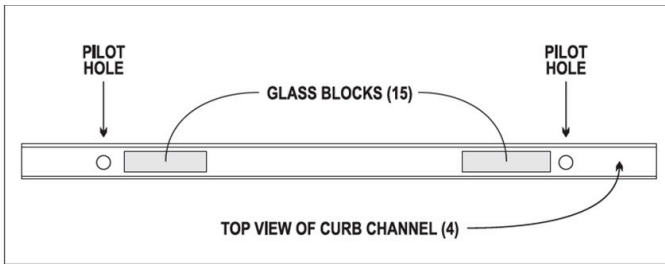
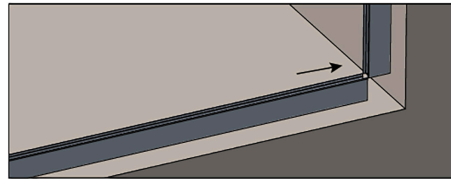
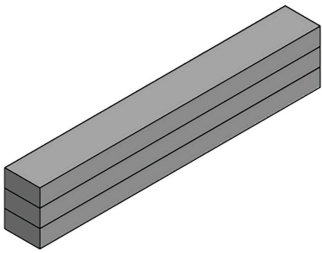
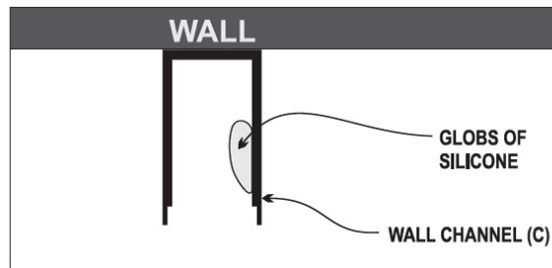

FIGURE 20A
FIGURE 20B
FIGURE 21A
FIGURE 21B
With door in the open position, carefully remove the Glass Panel (P) and Glass Blocks (Q) and drill pilot holes in curb channel as shown in Figure 20 A. Replace the Curb Channel (D) under the Wall Channel (C). Use a pencil to mark for pilot holes and remove channel for drilling. Using a 3/16" drill bit, drill two pilot holes through the Curb Channel (D) into base (See Figure 20A). Space both holes per Figure 20A. **PUT A DROP OF SILICONE** in holes, re-place Curb Channel (D) and secure with #8 x 2" Screws (K). (See Figure 20B)
Place two stacks of three Glass Blocks (Q) inside the Curb Channel (D) per Figure 20A. **NOTE: DO NOT SET ON SCREW HEADS.** These glass blocks will be used not only to cushion and protect panel from screw heads but to also adjust the height of the panel to match the door. You can remove glass blocks to lower panel, cut glass blocks in half and stack more than three to raise the panel. (See Figure 21A). When ready to install glass, put four or five globs of silicone on the inside of the wall channel (See figure 21B). Set Glass Panel (P) in the Curb Channel (D) on Glass Blocks (Q) and gently push into Wall Channel (C) until glass is event Curb Channel (D).